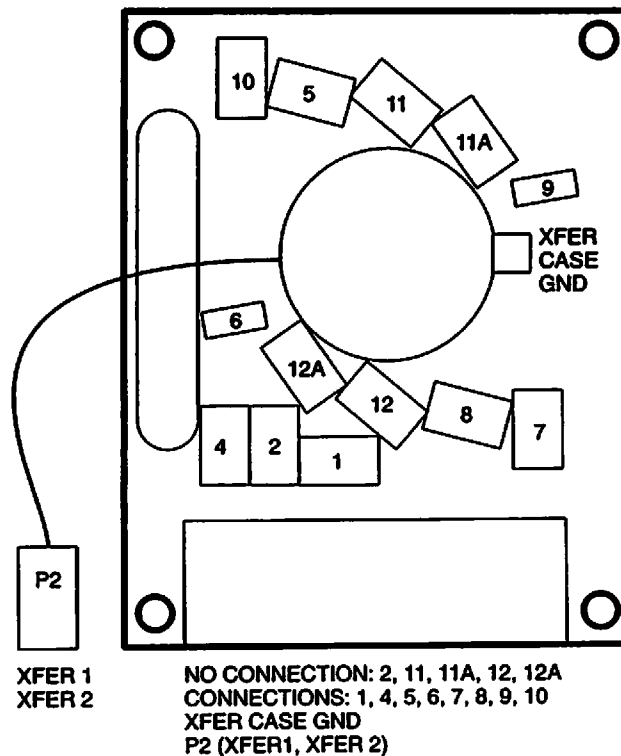

Figure 4-6 A4 Transfer Relay
- 1 Label and disconnect the wires from the Transfer Relay terminals as shown in Figure 4-6 below. The terminal numbering corresponds to the numbers on the Interconnect Diagram (Figure 5-2).